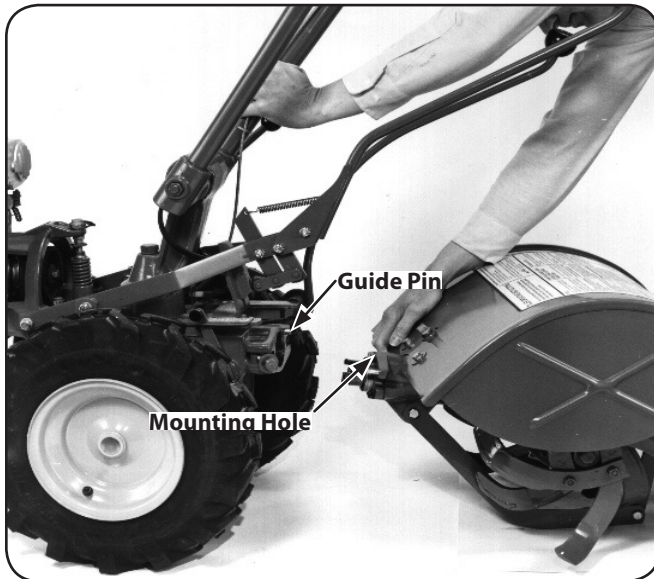

Figure 5-22
9. Tip the PTO power machine forward about one inch with one hand while pulling the tine attachment back. See Figure 5-22.